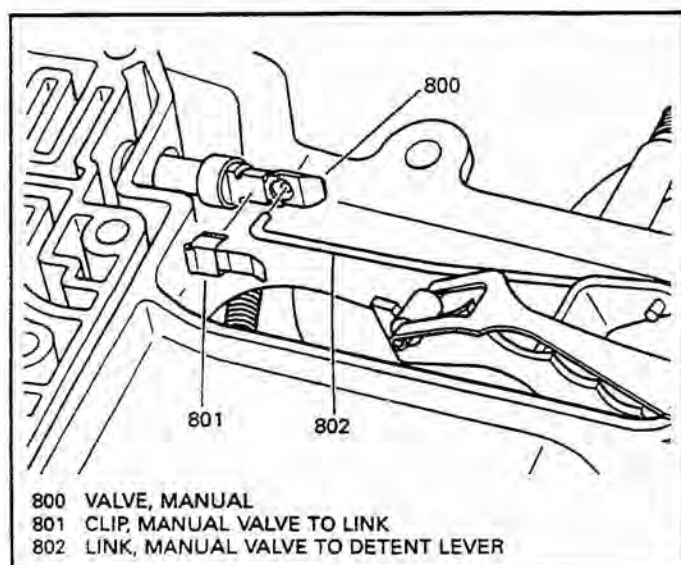

Figure 170
12. Connect the manual valve link to the manual valve with the manual valve clip (801), shown in Figure 170.